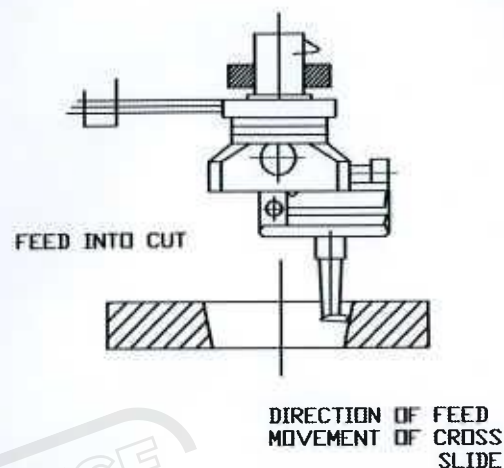

FIG.4
The tool being clamped in the direction of cross feed to the tool slide, expanding taper is produced. If the same tool is clamped in the opposite direction to the direction of cross feed to tool slide, contracting taper will be produced. When clamping the tool it is necessary to see it that the tool point is set in a plane passing through the axis of holes for bars and holders (7) (see Fig.4). Otherwise, the taper bore will not be accurate.